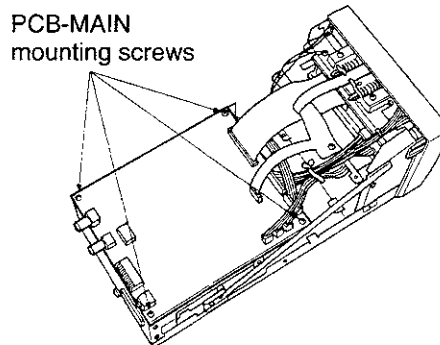

Fig.1-6
3. Remove the 4 screws securing the PCB-MAIN. (Fig.1-6)
5. Remove the PCB-POWER.(Fig.1-6)